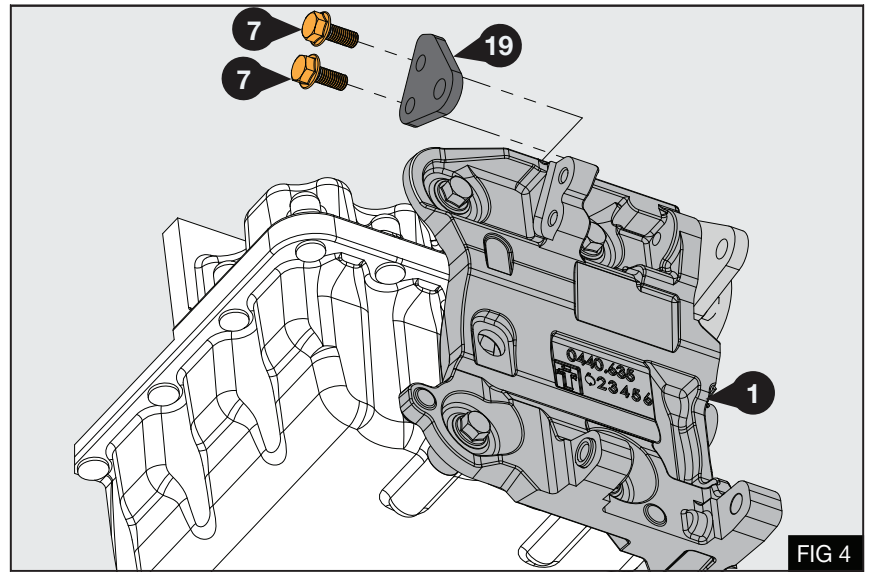

FIG 4
3. Assemble idle pulley (3) onto the upper mount plate (18) using spacer (9) and threaded insert (10)
- Torque pulley bolt (5) to 22 lb.ft / 30 Nm
4. Fit pulley cap (6)
5. Install the rear mount plate (19) to bracket (1) using 2x M8 x 20 bolts (7) - Fig 4